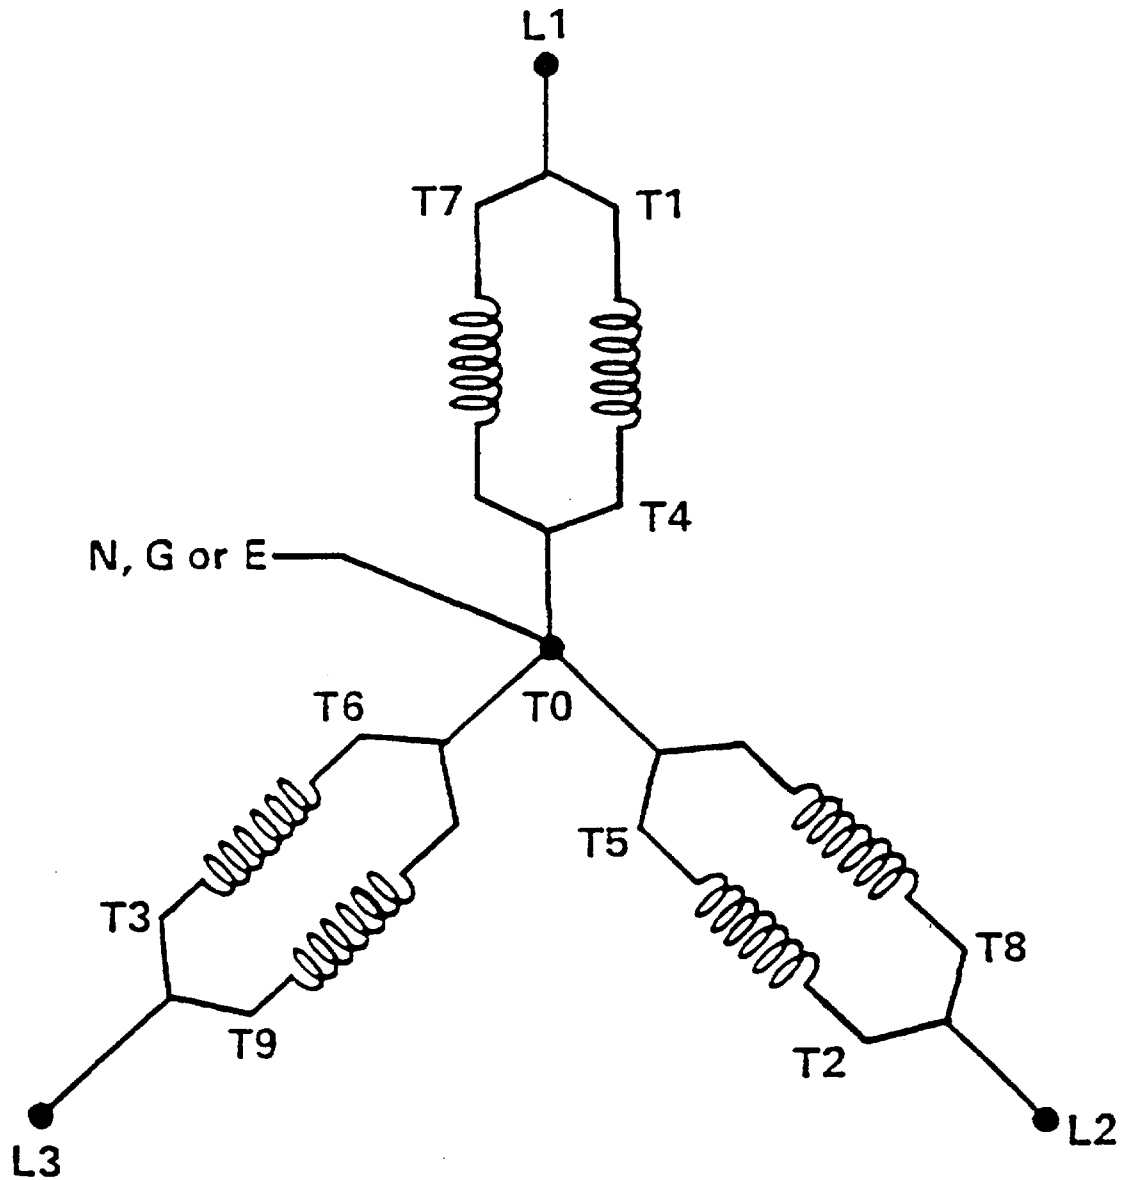

FIGURE 1-29A. OUTPUT LEADS ON THE SHIPS SERVICE GENERATOR IN THE LOW Y POSITION.
b. Ship's Service Generator Two 250kW brushless exciter generators provide 240 Vac, three-phase, 60 Hz primary ship's service power. The output leads on the generator are in the low "Y" configuration, (see FIGURE 1-29A). A center ground lead is not used. Each generator is capable of providing 110 percent of the necessary at sea load for the propulsion and safety of the ship under normal conditions. The generators may be operated in parallel; however, normal operation has one generator on line and the other in reserve.